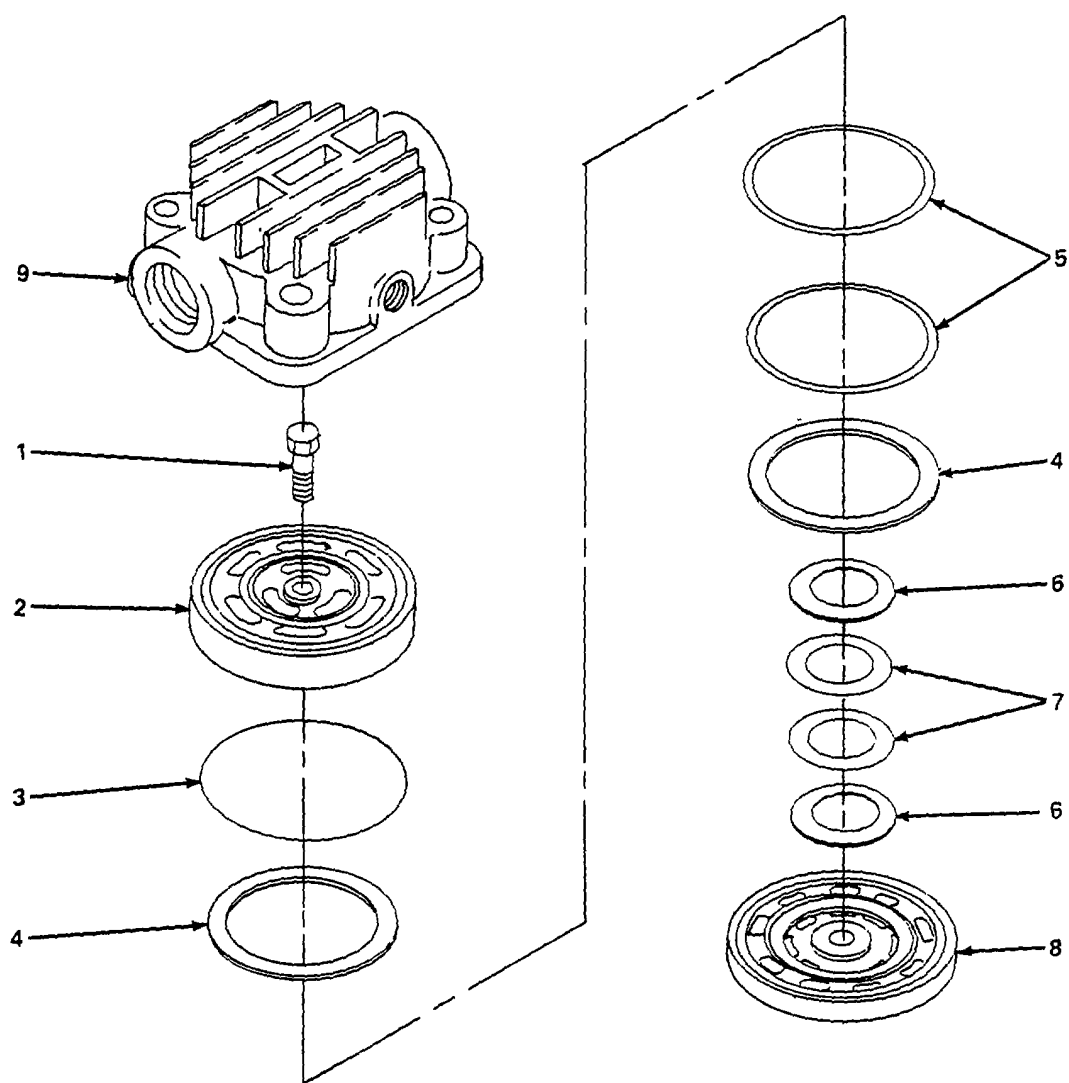

Figure 5-30. Valve Head and Valve Assembly, Repair.
- (1) Install inlet filter and adapter assembly (para. 4-17).
- (2) Install storage tray (para. 4-15).
b. Repair. (figure 5-30)
- (1) Remove valve head and valve assembly (para. a.).